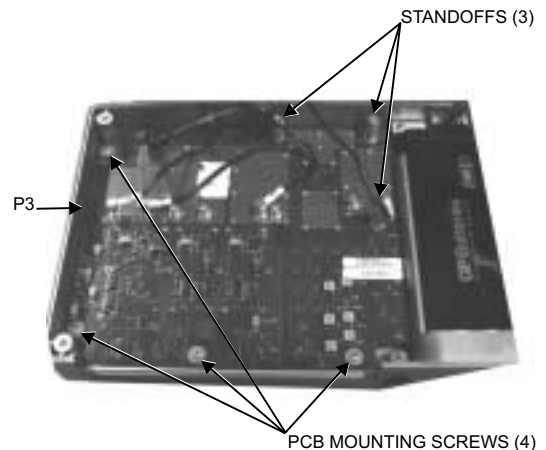

Figure 19. RF PCB
3. Remove the three PCB mounting screws and lift the Main PCB assembly up. Carefully unplug the Main PCB from the RF PCB at connector P3 (Figure 19).